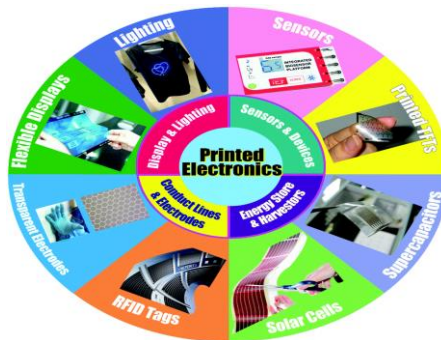

Fig. 1.18: Printed Electronics
6.Printed Electronics – Printing electronics components on a semiconductor substrate is the most effective way to reduce the overall cost of the manufacturing process. So, manufacturers are always trying to tackle this challenge by searching for new technologies and advancements in conventional printing technologies. (Figure 1.18) Unlike traditional semiconductors that use tiny wires as circuits, printed electronics rely on conductive inks and often flexible films. Further, the advancements in printing technologies allow the flexible hybrid electronics field to obtain enough momentum. Therefore, start-ups and scaleups are developing solutions for advanced printing technologies.